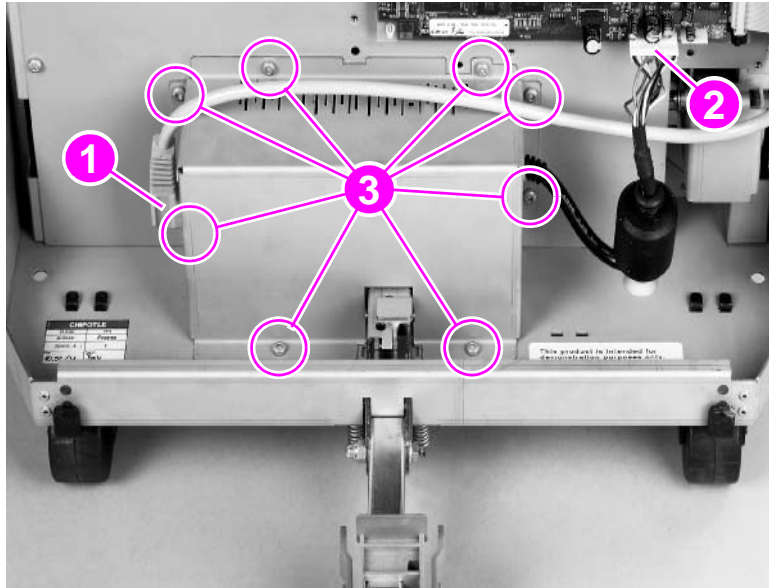
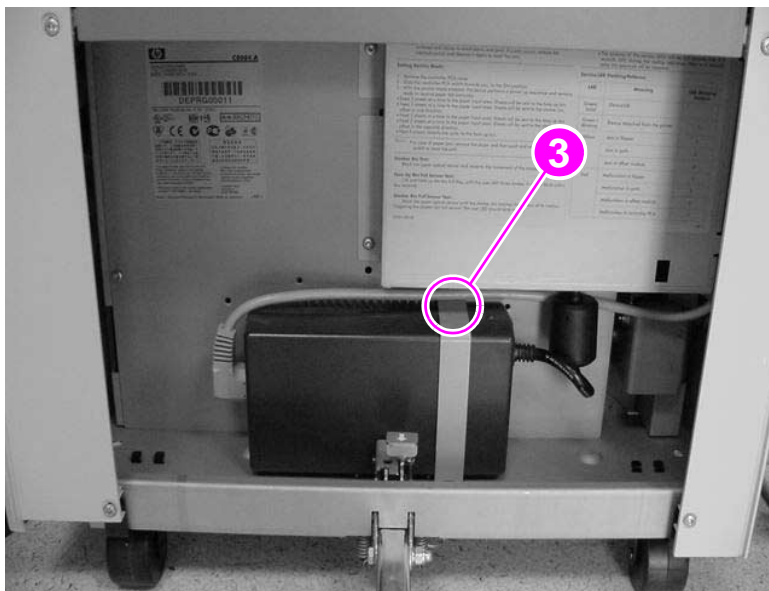

Figure 119.
Figure 120.
See figure 119 for the stapler/stacker or figure 120 for the stacker.
- 4 **Stapler/stacker:** Use a Torx #20 screwdriver to remove eight screws (figure 119; callout 3) from the cover, and lift out the power supply and the cover.
Stacker: Use a Torx #20 screwdriver to remove one screw (figure 120; callout 3) from the bracket, and lift out the power supply and the bracket.